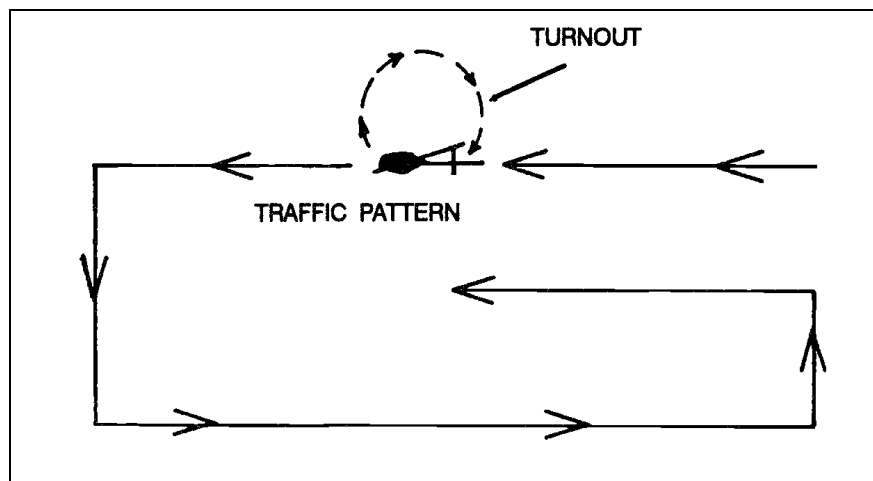

Figure 3-2. A 360-degree turnout.
a. **360-Degree Turnout.** Except on the final approach, the pathfinder can issue instructions for the 360-degree turnout (a two-minute maneuver) at any point in the traffic pattern. When a pilot receives instructions to begin a 360-degree turnout, he turns away from the center of the landing site, makes a wide circle, and reenters the traffic pattern at about the same point where he left it (Figure 3-2 and Table 3-5 [both on page 3-10]). If the first turnout does not give him enough room, he might have to make more turnouts.